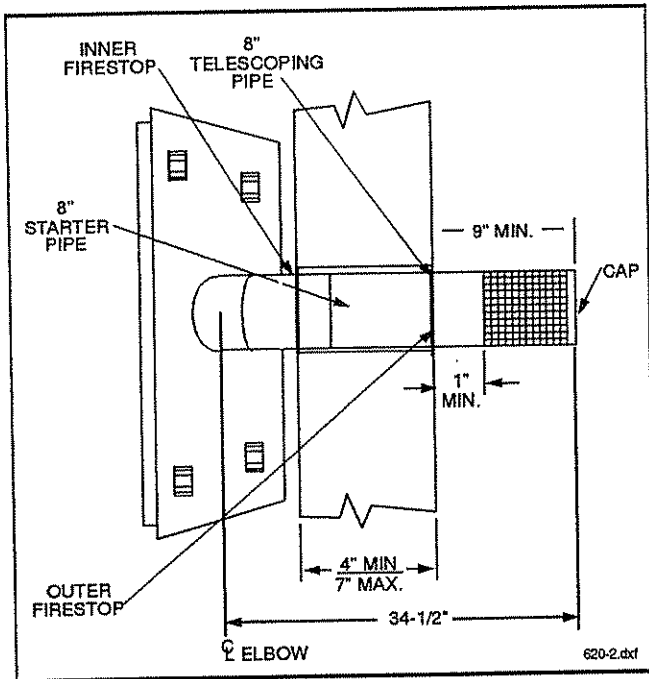
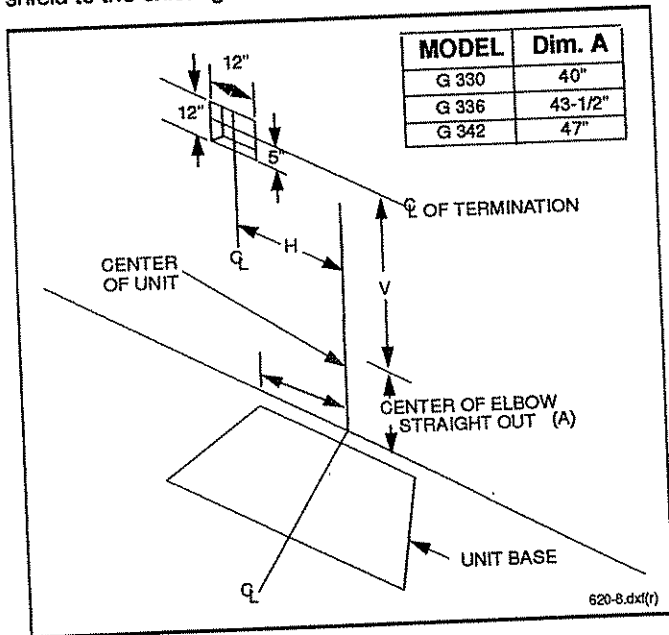

Fig. 2. Straight out installation (4" - 7" wall thickness).
Fig. 8. Hole dimensions.
3. Four (4) corner supports. (Example: Four (4) concrete masonry blocks.) These supports must be positioned so they contact all four (4) perimeter edges on the bottom of the unit.
If the appliance is installed directly on carpeting, tile or other combustible material other than wood flooring, it should be installed on a metal or wood panel extending the full width and depth of the unit. There are three (3) basic types of installations. (See Figs. 2, 3, 4, 5 and 13.)
After the appliance has been positioned in its permanent location, the hole through the exterior wall of the house can be cut. This hole needs to be 12" square with its center line determined by the amount of vertical rise and horizontal run of the termination. See Figs. 2, 3, 4 and 5. When locating the hole it must be noted that the bottom of the cap must be no less than 18" above the ground level, and top of the cap must be no less than 9" to any wall running parallel to vent termination. (See Figs. 8, 9 and 10.)